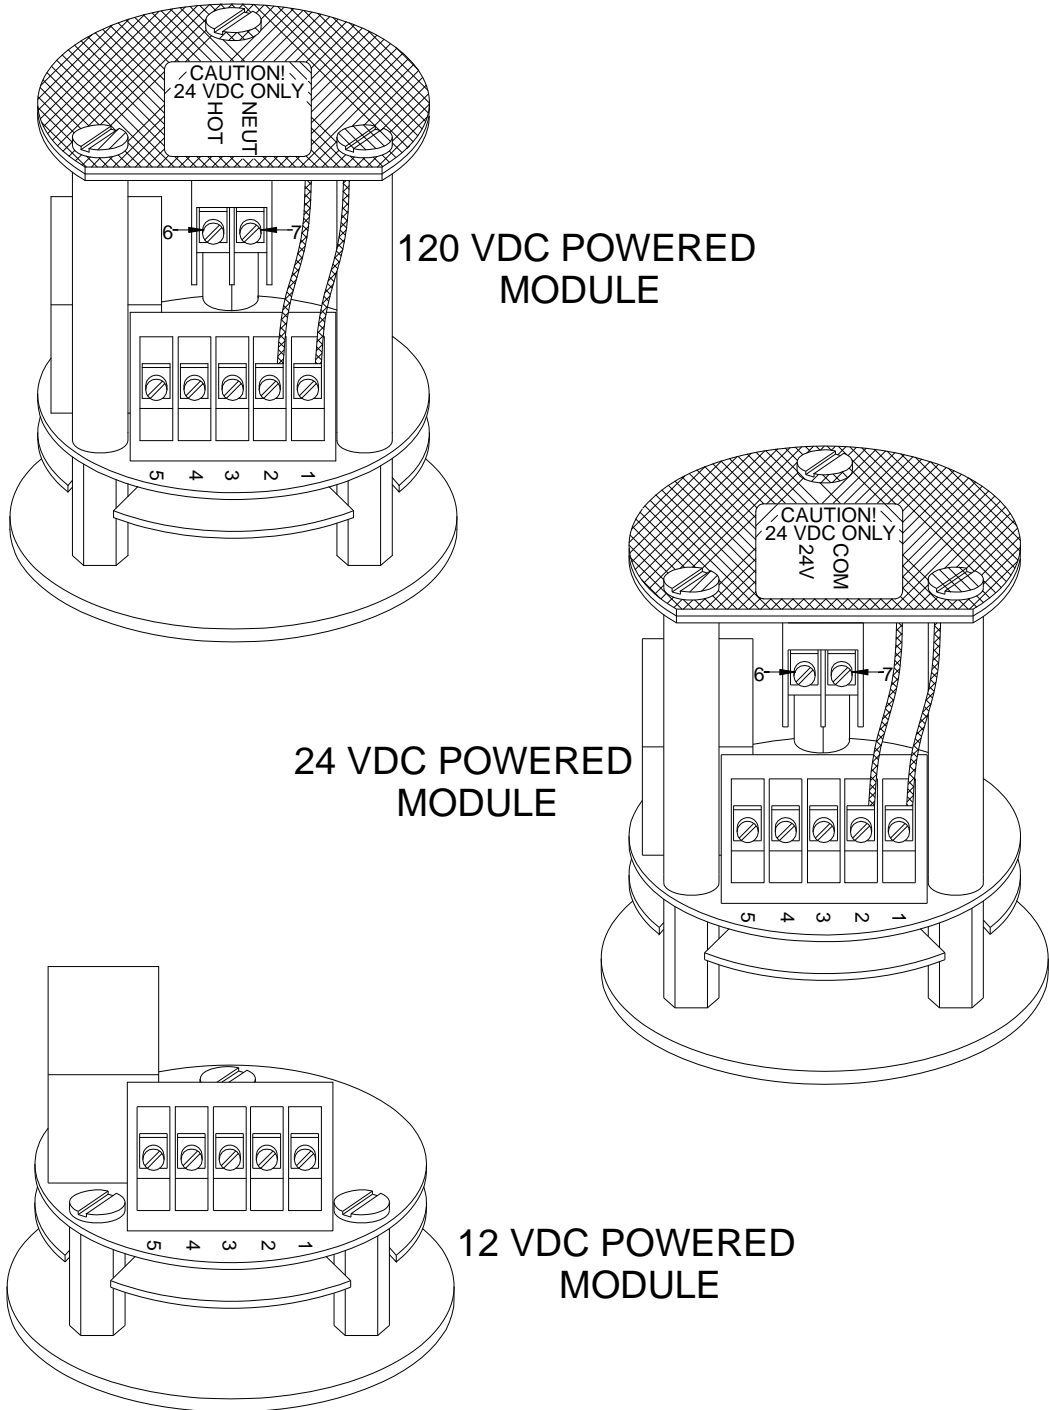

Figure 3.3: Wiring Terminal Locations
- 3.4 Wire the unit in accordance with the needs of the machine to be monitored and any associated control system. Figure 3.2 shows some simple wiring diagrams which may be useful in certain applications. Figure 3.3 shows the location and identification of the wiring terminals. Consult your distributor, representative or the K-TEK factory if you desire help with your specific application.